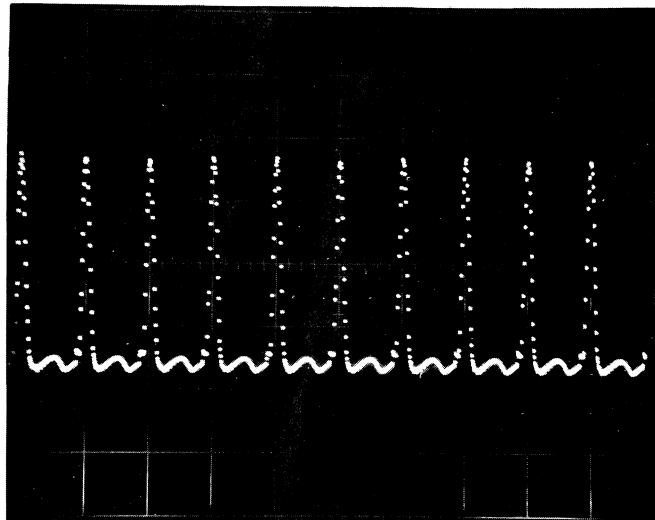

Figure 5-18A
3. Adjust the TRIGGER SENSITIVITY for a solid display. (See figure 5-18A). NOTE: The SAMPLES/CM control may have to be adjusted CCW for a well-defined display.